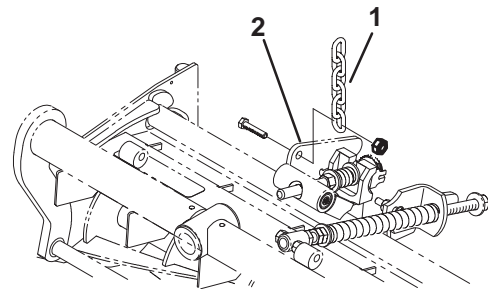

Figure 5
12. Remove nut securing turf compensation spring mounting bracket to cutting unit stabilizer ear (Fig. 5). Insert tipper chain onto capscrew and secure with nut removed.